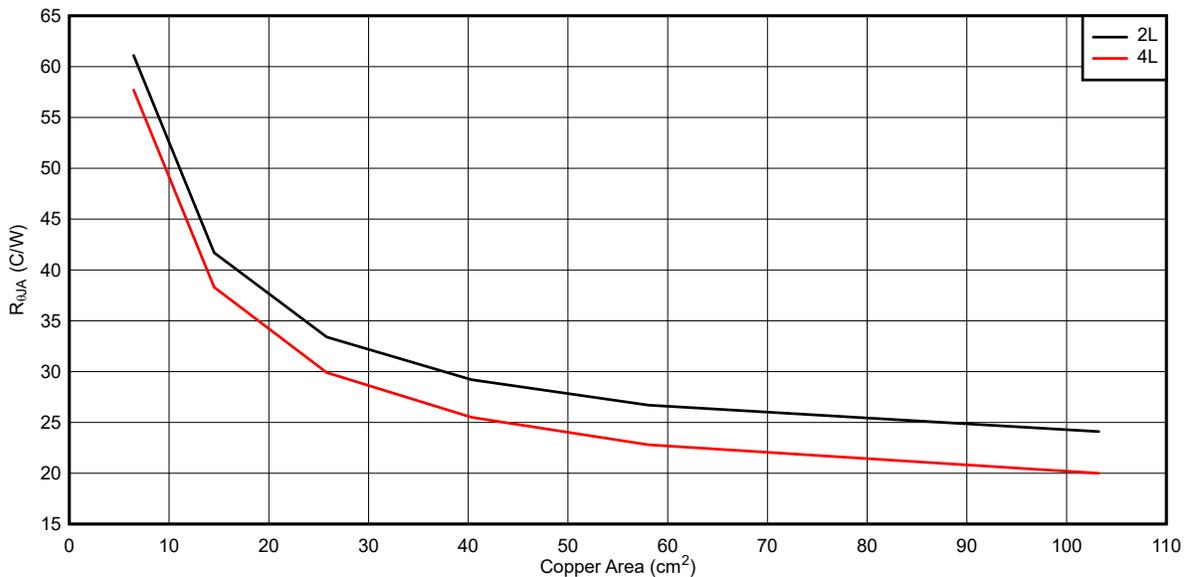

Figure 8-33. Typical  $R_{\theta JA}$  Versus Copper Area for DDA package
The LM516x features a die attach paddle, or "thermal pad" (EP), to provide a place to solder down to the PCB heat-sinking copper. This provides a good heat conduction path from the regulator junction to the heat sink and must be properly soldered to the PCB heat sink copper. Typical examples of  $R_{\theta JA}$  can be found in Figure 8-33 and Figure 8-34. The copper area given in the graph is for each layer. The top and bottom layers are 2-oz copper each, while the inner layers are 1 oz.
Remember that the data given in Figure 8-33 through Figure 8-36 is for illustration purposes only, and the actual performance in any given application depends on all of the previously mentioned factors.